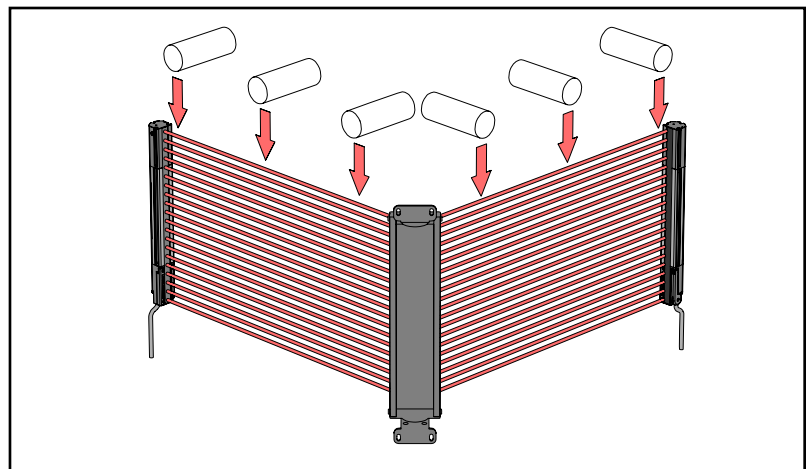

Figure 2. EZ-SCREEN LP trip test for corner mirror applications
- *If corner mirrors are used in the application, the beams must be tested in three places on each leg of the beam path (between emitter and mirror, and also between mirror and receiver, Figure 2).*